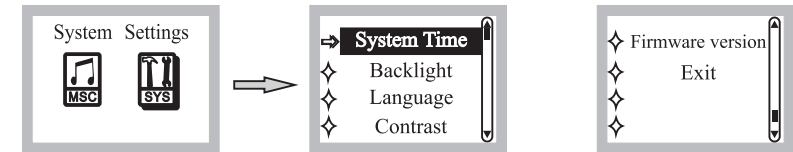

Fig. 16
- (2) System Settings Mode: Turn right or left Parameter knob to change functions, press Parameter knob to confirm and enter system settings, Fig. 16.